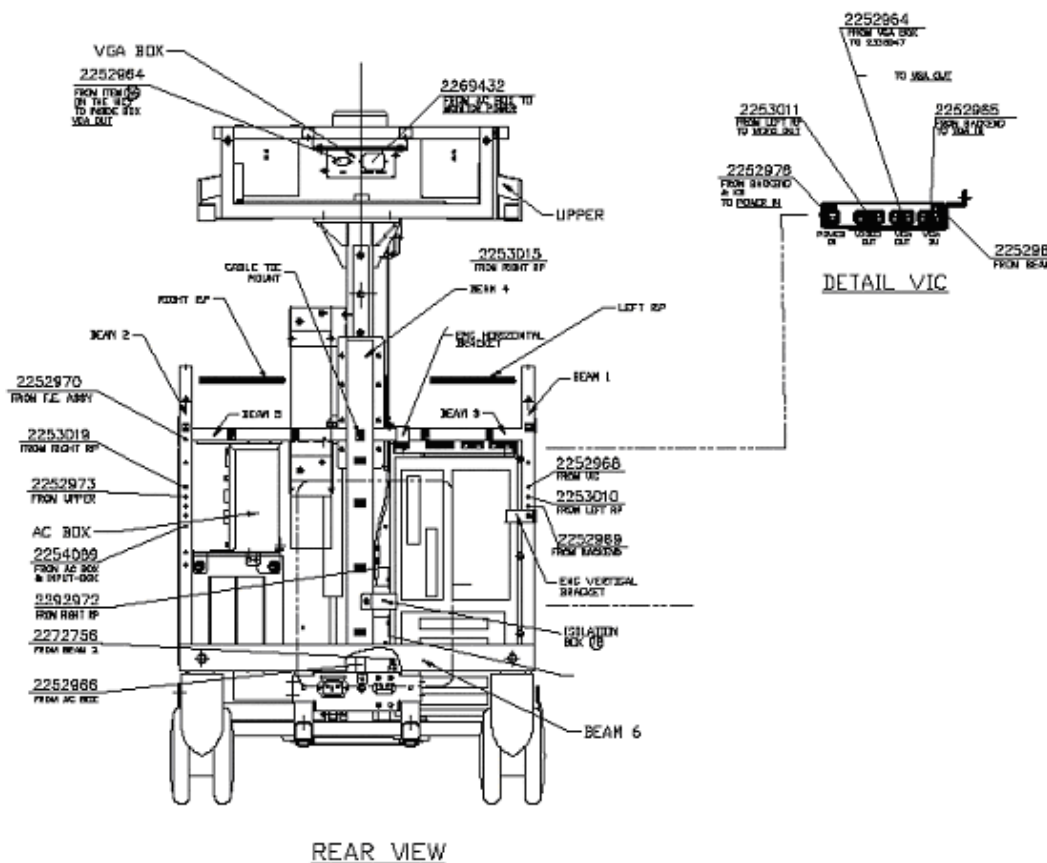

Figure 8-33 VIC Correlation Module in Position
- 7.) Return the VIC to its original position above the BEP - see Figure 8-33.